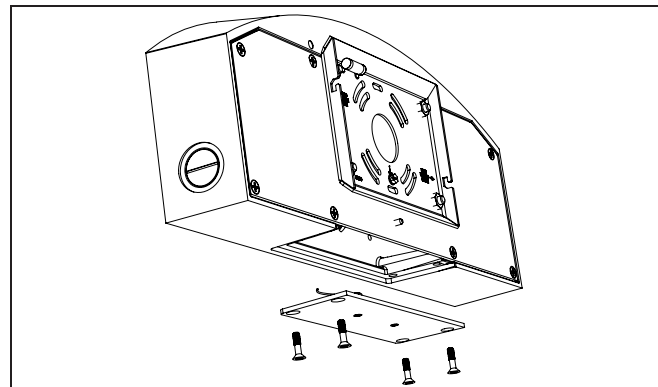

Figure 16.
6. Remove the bottom cover plate, quantity 4 phillips head screws. (Figure 16)
9. Reinstall the bottom cover plate. Torque screws to 20 in-lbs. (Figure 16)